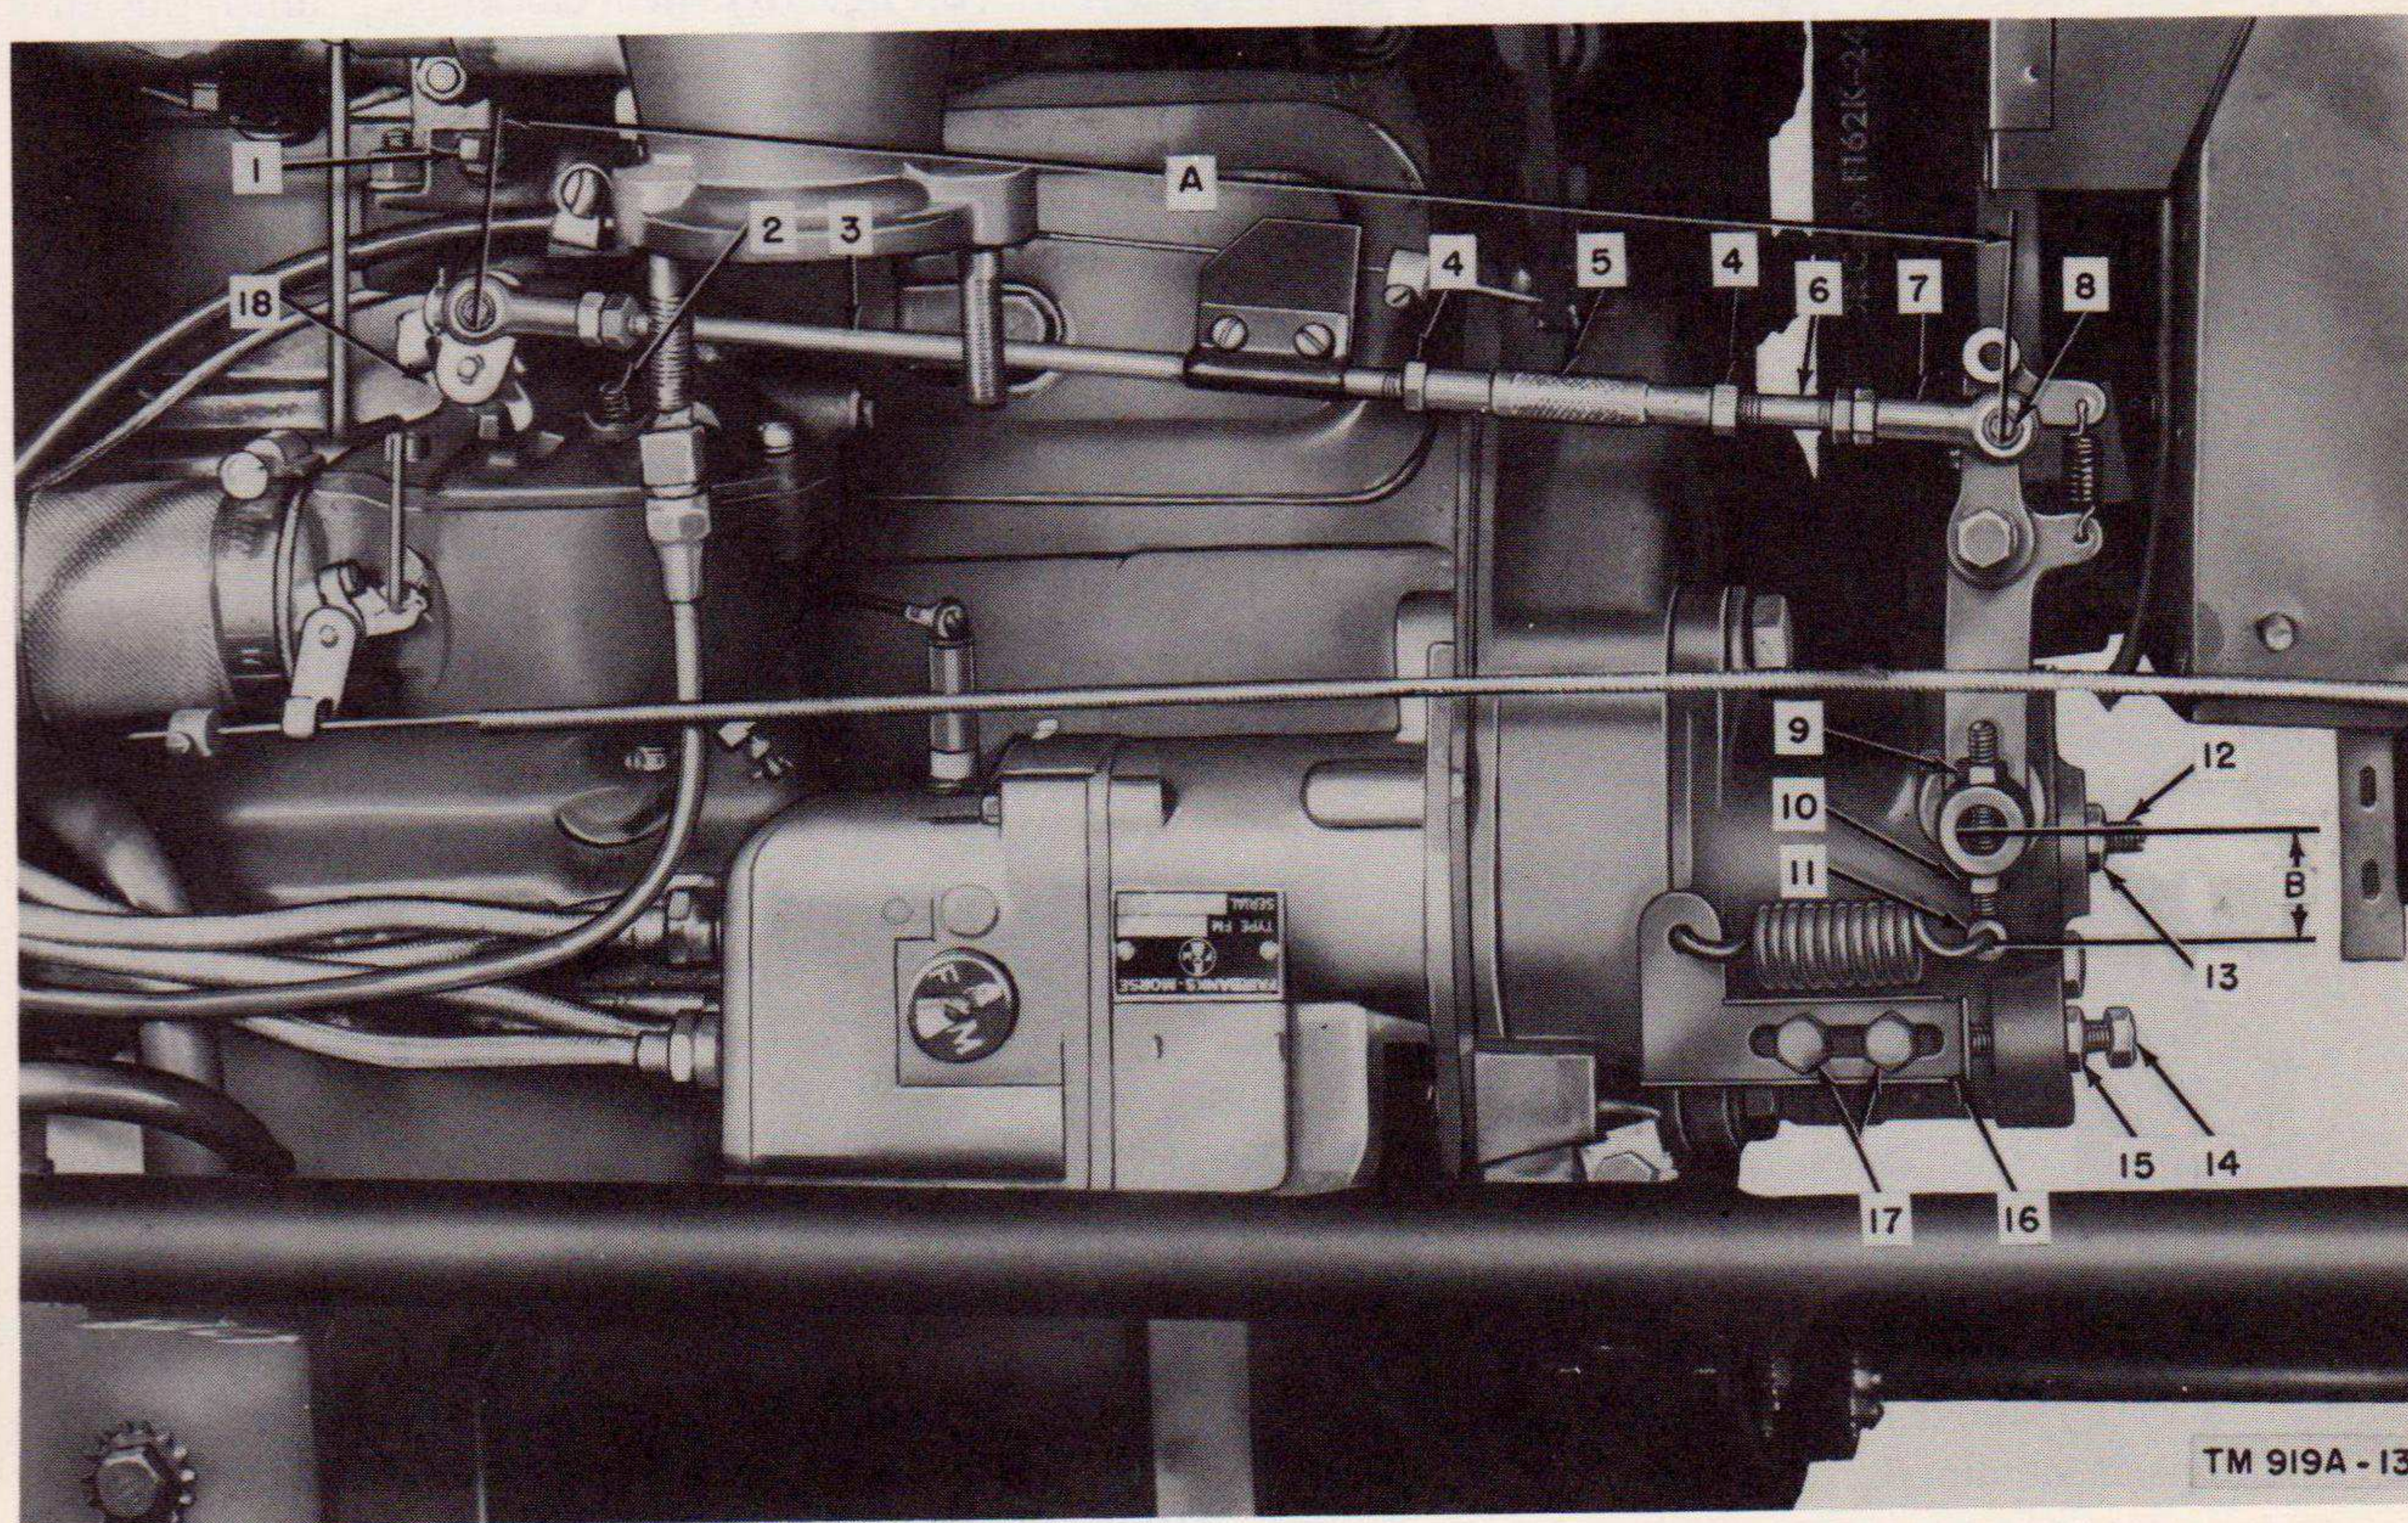

Figure 13. Engine speed governor adjustments.
- (1) Governor adjustment to correct frequency
(fig. 13). If the indicated frequency is abnormal and thereby causes improper voltage output, correct the frequency by making the governor adjustments as instructed in subparagraph (1)(a) through (d) below.
- (c) Loosen the two shoulder bolts (17) that hold the adjustment slide (16). Loosen the lock nut (15) and change the engine speed by turning the adjustment screw (14). Turn the screw clockwise to increase the engine speed and counterclockwise to decrease the engine speed.
- (d) When the frequency meter indicates 400 cps under load or about 405 cps under no load, secure the adjustment by tightening the lock nut (15) and shoulder bolts (17). If necessary, readjust the linkage between the governor and carburetor (subpar. (a) and (b) above).
- (2) *Governor adjustment to correct engine surge under no load.* If the engine is hunting or surging under no load, correct the condition by adjusting the engine speed governor as follows:
- (a) Loosen the lock nut (13) and turn the bumper screw (12) in, until the engine stops surging. Do not turn the bumper screw in too far or the engine speed will increase and the governor will not function properly.
- (b) When the bumper screw has been adjusted properly, secure the setting by tightening the lock nut (13).
- (c) If the frequency drop from no load to rated load is greater than the specified 407 to 400 cycles, decrease dimension B (fig. 13) by loosening the lower adjusting nut (10) and tightening the upper adjusting nut (9). Then readjust the no-load speed of the engine (subpar. (1)(c) above) until a frequency of 405 cps is obtained.
- (3) *Governor adjustment to correct engine surge under load.* If the engine is hunting or surging under load, correct the condition by increasing dimension B. To do this, loosen the upper nut (9) and tighten the lower nut (10). Readjust the engine no-load speed in accordance with the instructions in subparagraph (1)(c) above.
- (4) *Dc voltage regulator adjustment.* If necessary, refer to paragraph 18b and adjust
- (5) *Carburetor adjustments.* The carburetor is provided with two external adjustments, the throttle stop screw (18, fig. 13) and the idle-adjusting needle (2). If the carburetor idling adjustment is required after the engine has warmed to operating temperature, proceed as follows: Set the hand throttle to an idling speed of approximately 500 to 700 rpm with the engine under *no load*, or to a point where the carburetor throttle stop screw (18) will touch or nearly touch the throttle stop pin (21, fig. 24). Turn the idle-adjusting needle (2, fig. 13) in (clockwise) until the engine begins to run roughly or falters, then slowly turn the screw out (counterclockwise) until the engine runs smoothly. Recheck the adjustment after the engine has been operating under load for about  $\frac{1}{2}$  hour.